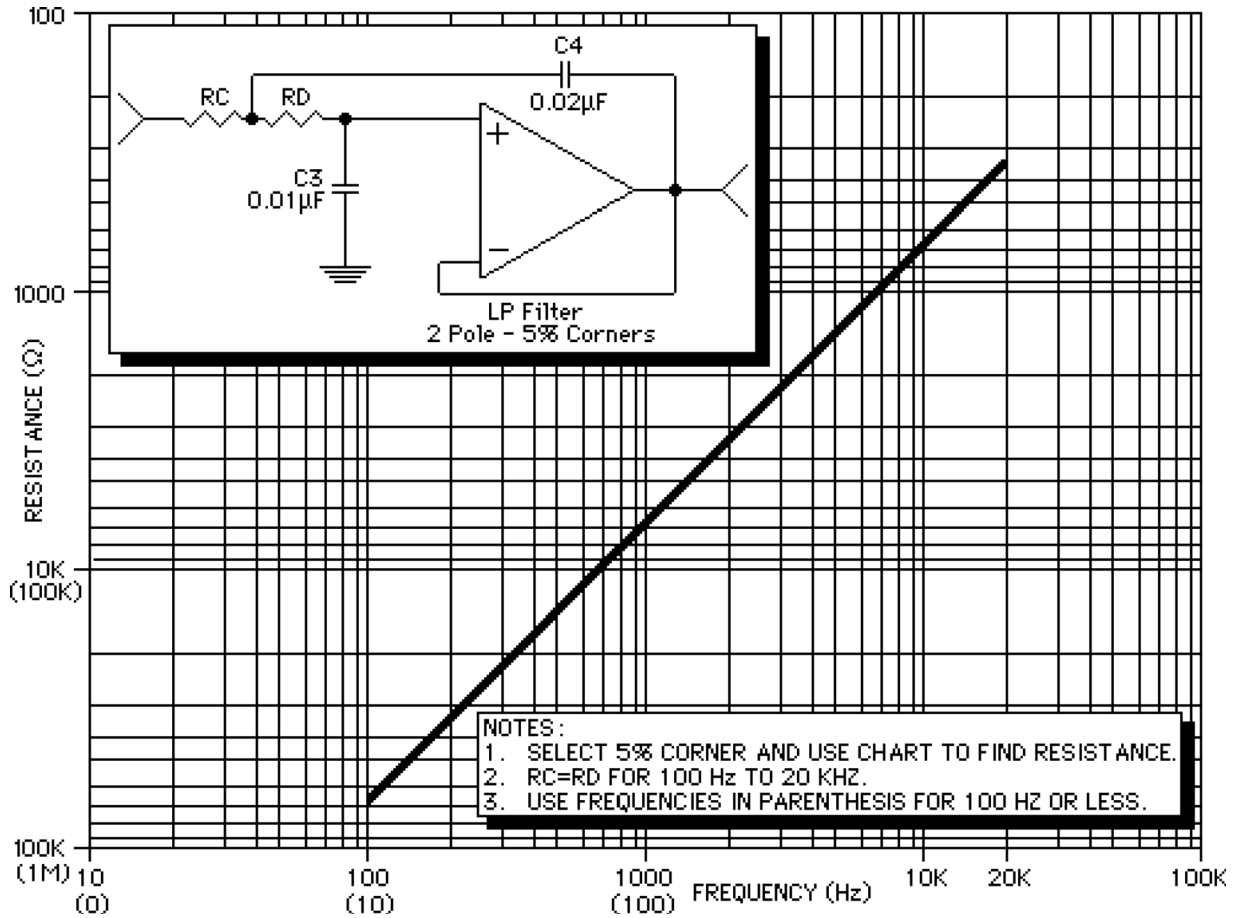

FIGURE 6-4: LOW PASS FILTER RESISTOR SELECTION CHART
1. Select a desired cut-off frequency and, using Figure 6-4, first determine the resistance value of resistors RC and RD. Both are the same in value ($RC = RD$).